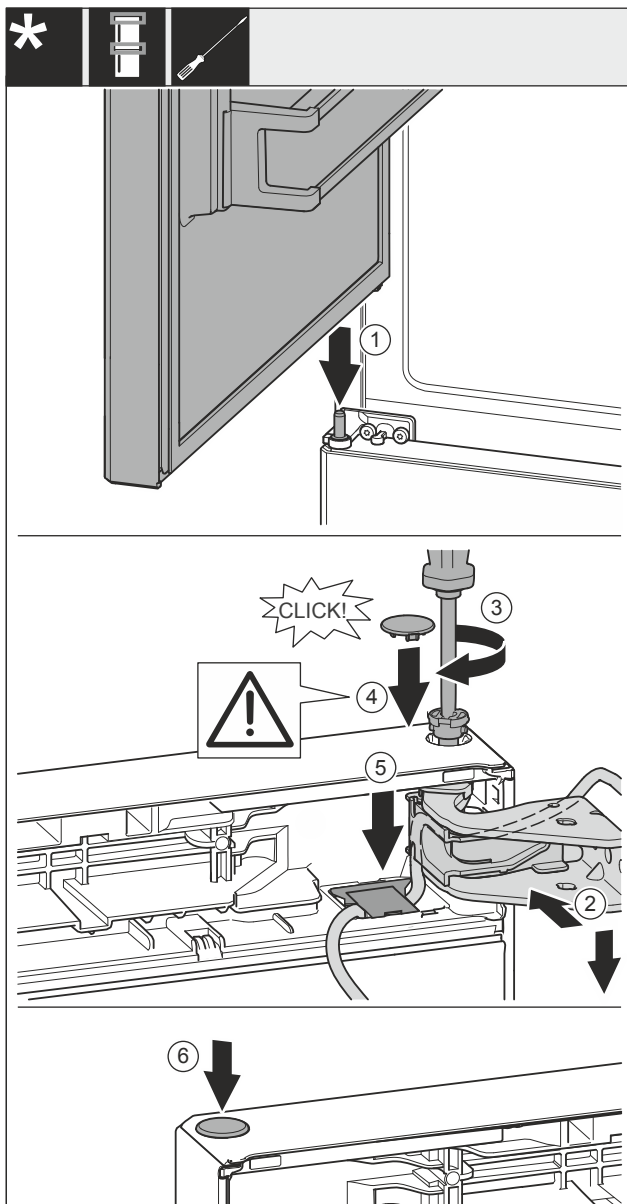

Fig. 36
- Place the top door on the centre bearing bolt Fig. 36 (1).
- Align the top door with the opening in the swap bearing block Fig. 36 (2).
- Insert the bolt Fig. 36 (3) and use screwdriver to tighten it.
- Insert the cover Fig. 36 (4).
- Check that the cover Fig. 36 (4) is resting on the door.
- Insert the cover Fig. 36 (5) and push down until it engages.
- Insert the cover Fig. 36 (6).